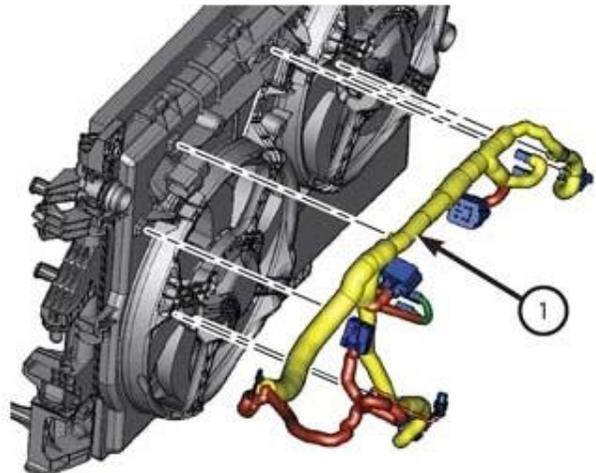

Figure 18 – Coolant Recovery Hose
- From above or below as necessary, separate the wire harness (1) retainers from the cooling fan shroud (Figure 18).
31. The following cooling fan module steps may be performed together; some connectors or retainers may be more easily accessible from above or below. Connect any that are accessible from below first then lower the vehicle to access those accessible from above (Figures 18 and 17).
- From below or above as necessary, install the wire harness (1) retainers to the cooling fan shroud (Figure 18).